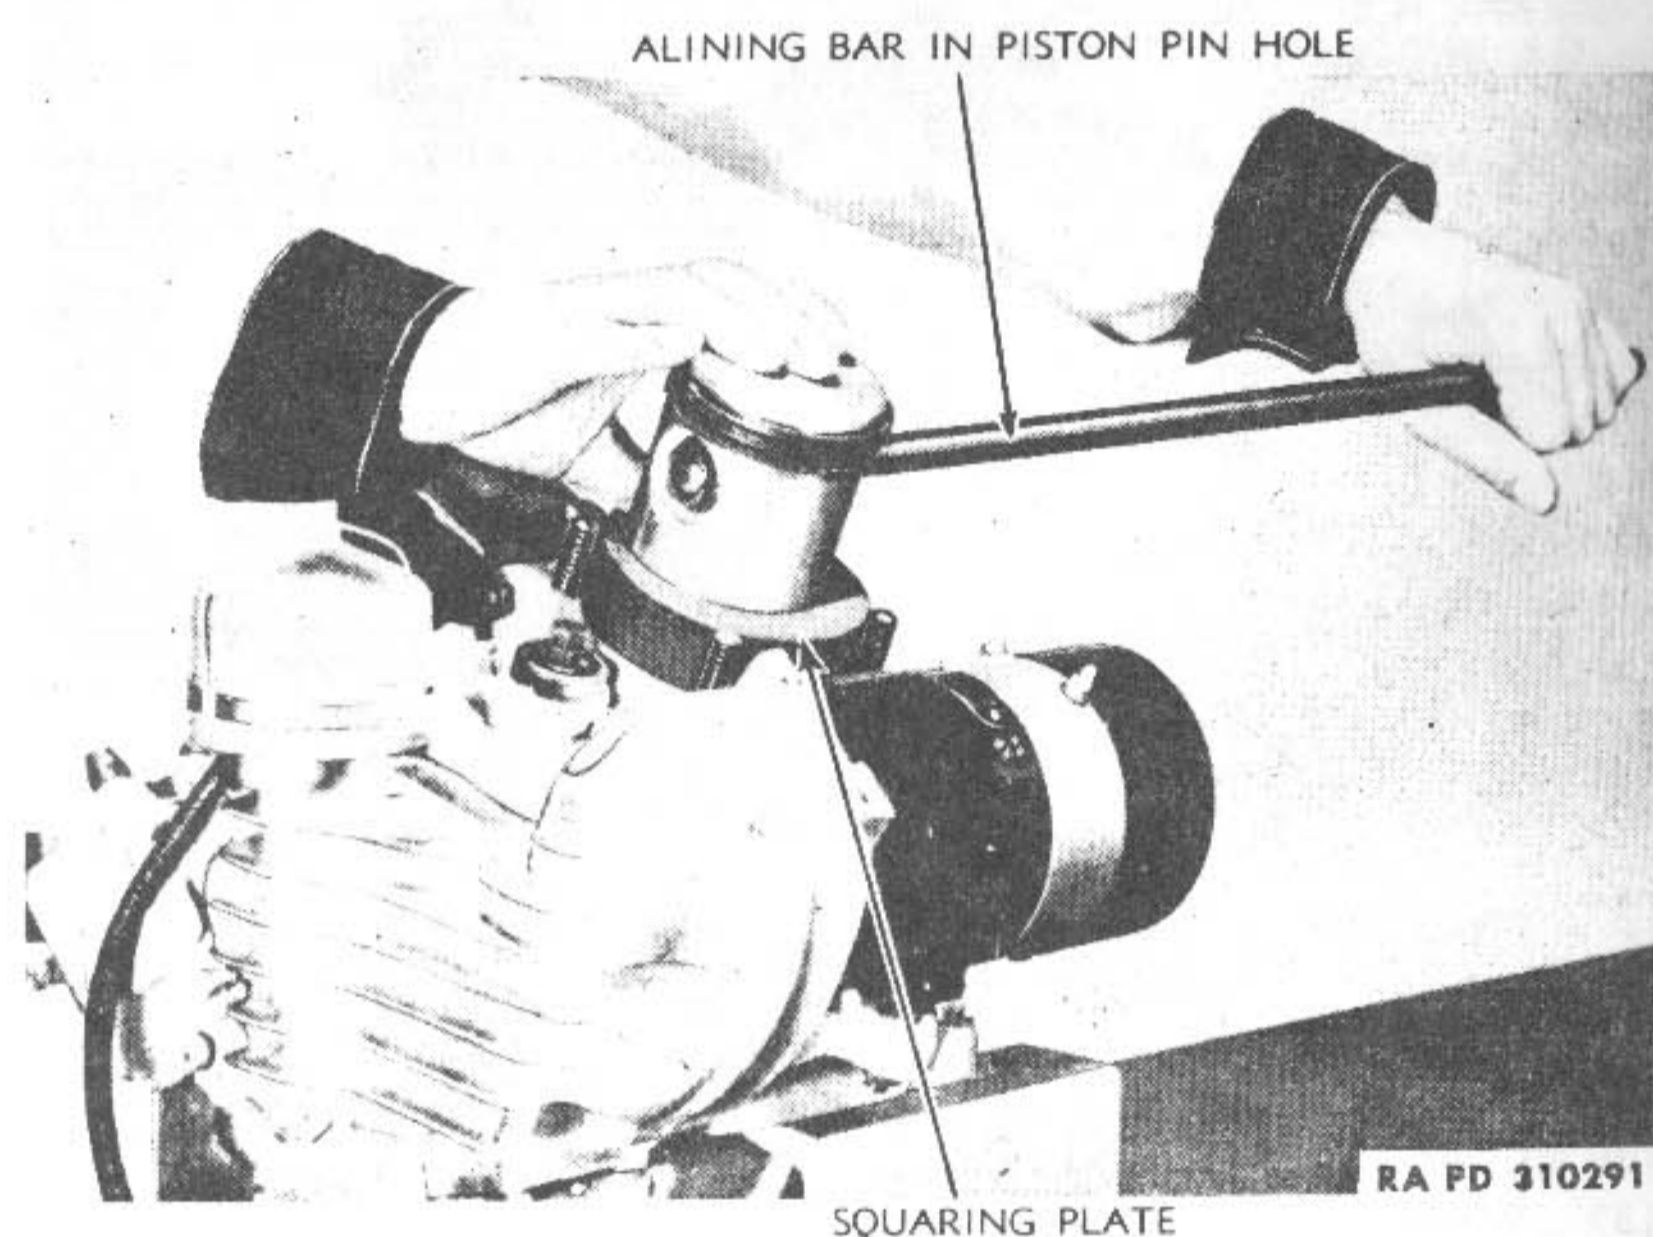

Figure 21—Straightening Bent or Twisted Connecting Rod
e. Straightening a Bent Connecting Rod (fig. 21). Insert a $\frac{9}{16}$ -inch diameter rod through the piston pin hole, on the *low* side of the piston, and apply upward force to straighten the rod. Recheck alignment after each straightening operation. **NOTE:** Raise piston to highest position, before straightening a rod, to prevent damage to piston skirt.